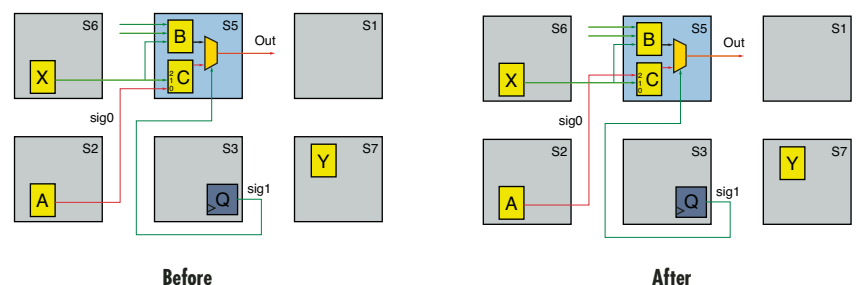

Figure 4 – Pin Swapping.
- **Pin Swapping:** Each input pin of a LUT has a different delay, so Map has the ability to swap pins (and the associated LUT equation) so that the most critical signal is placed on the fastest pin (Figure 4)